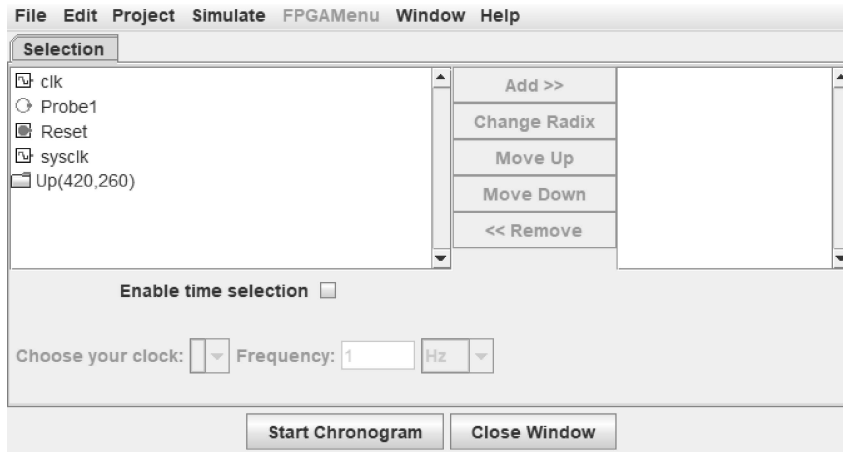

Figure 6.8: Set Up Chronogram
4. Click SIMULATE -> CHRONOGRAM to set up the *chronogram*. Figure 6.8 illustrates the initial setup screen for the *chronogram*.